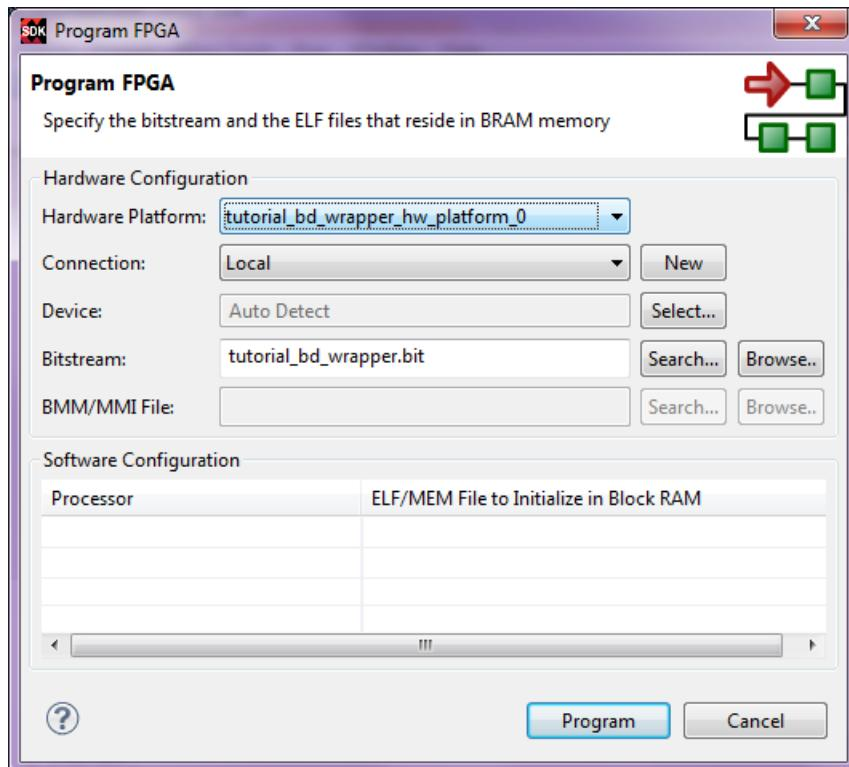

Figure 3-13: Program FPGA Dialog Box with Bitstream File
6. Select **Xilinx Tools > Program FPGA**. The Program FPGA dialog box, shown in Figure 3-13, opens. It displays the bitstream exported from Vivado.